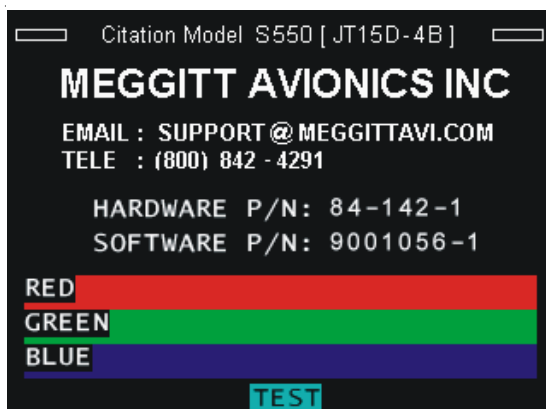

Fig. 2-1. Initialization Pages
The Initialization Pages are shown in Fig. 2-1. They are displayed only during the first 5 seconds following power-up. Primary display cycles, however, Secondary stays until **PAGE** button is depressed.
- Line 5&6 - Part Numbers (numbers shown in Fig 2-1 for reference only).
The Initialization - Test Mode display page is identical to Figure 2-1 with the addition of "**TEST MODE**" indication.